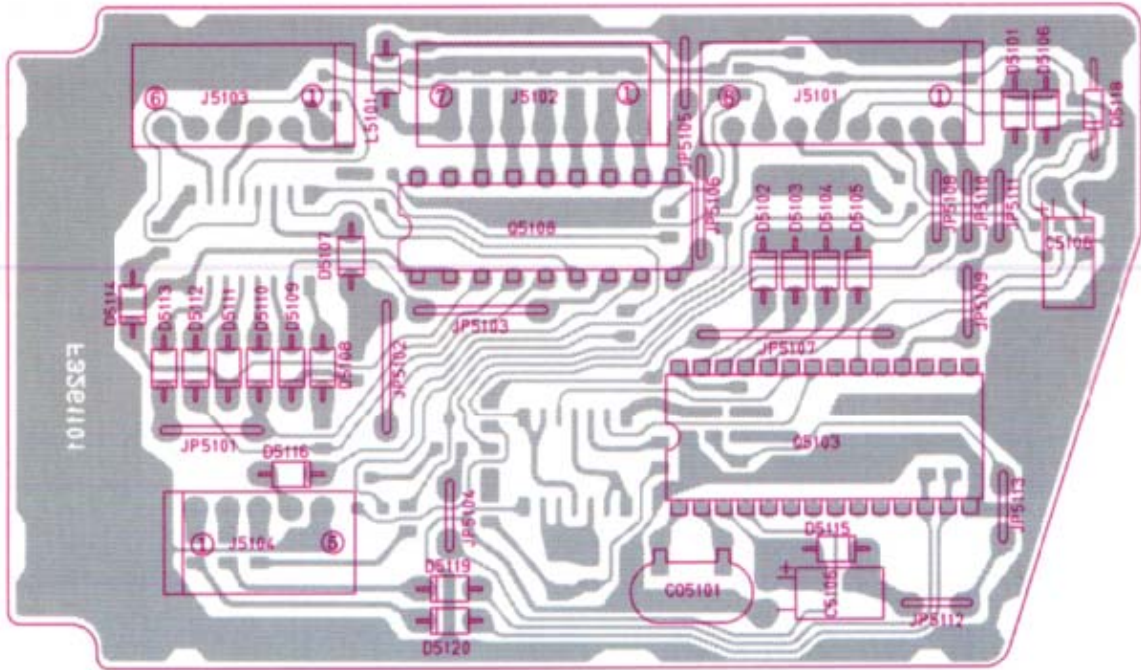

Figure 3-1.
7. Locate the Keyer Unit in upper left of the radio's top section, the component side where most of the devices are mounted, see the board placement in Figure 3-1 below.